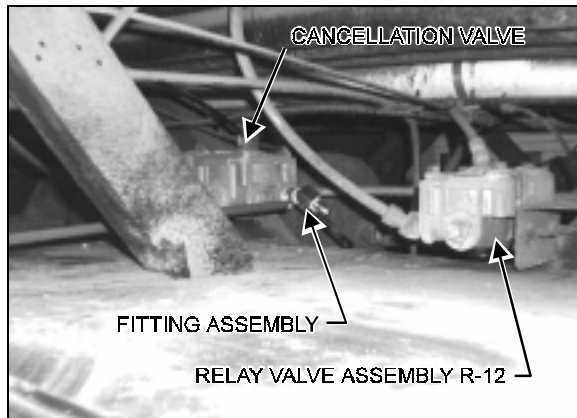

FIGURE 3: CANCELLATION VALVE 12092
6. Locate both L.H. & R.H. cancellation valves (over wheel housings - Fig. 3). Remove fittings #641089 and replace with preassembled fitting assemblies (step 5) (keep same orientation). Tighten with suitable wrench.